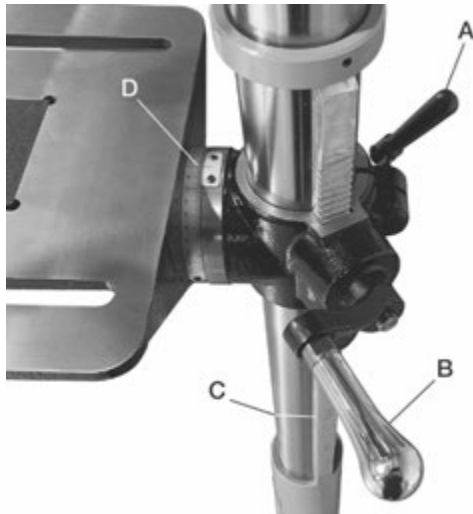

Figure 8-1
Loosen table locking handle (A, Figure 8-1). Turn crank handle (B) to raise or lower table along
Refer to Figure 8-1.
1. Loosen hex screw (E) to pivot table to desired angle. Refer to scale and indicator plate (D, Figure 8-1). Tighten hex screw (E) after setting desired angle.